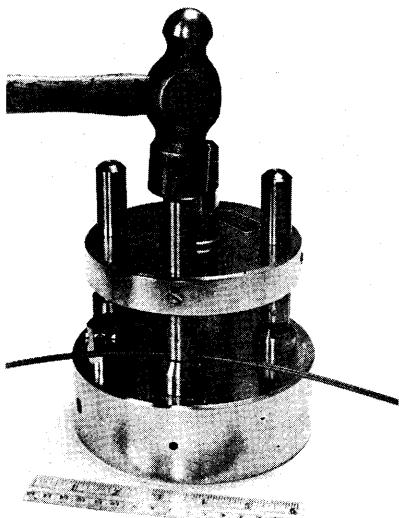

Figure 6a
b. Swage shafting approximately 1.5 inches centered at the proposed cut-off point using "Swage Shafting" position on tool. Shafting must be held concentric with axis of die for at least 1½" on either side of the die to prevent kinks. Never cut shafting until it has been swaged to prevent unwrapping. See Figure 6a. Use a hammer blow only sufficiently heavy to drive the two halves of tool together. Repeat hammer blows if necessary to swage shafting properly.